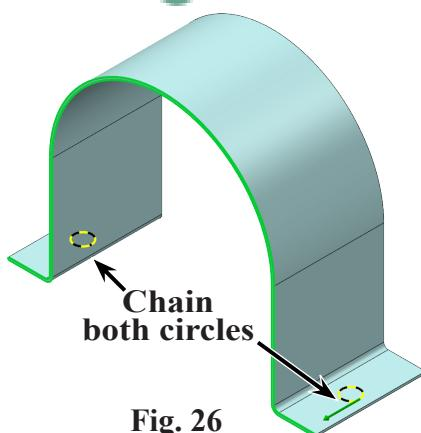

Fig. 26
Step 2. Click **both circles** to chain, Fig. 26.